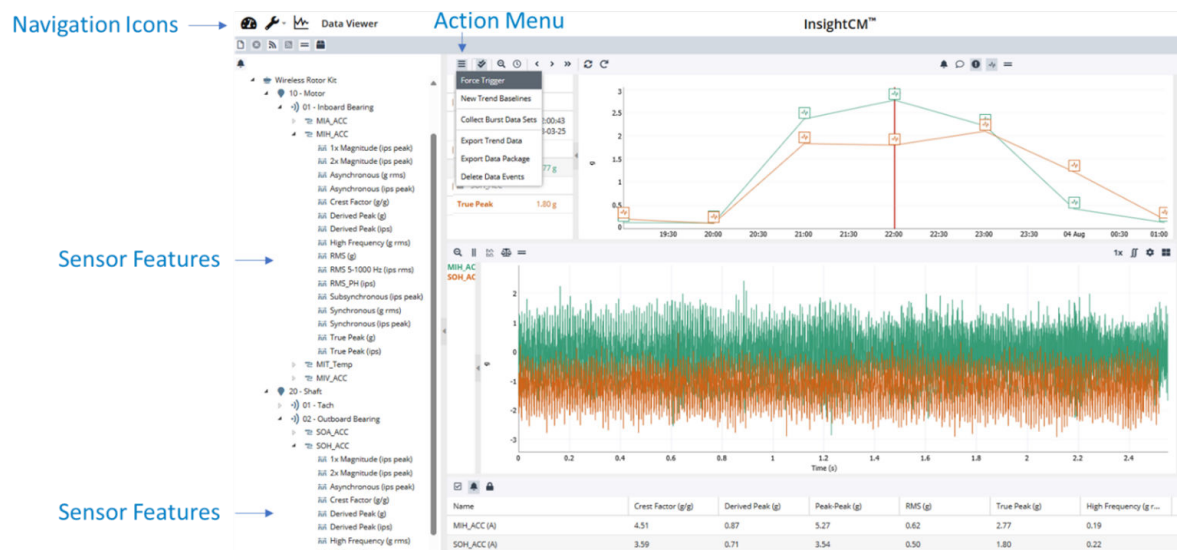

Figure 22. Data Viewer InsightCM page with Navigation, Features, and Action Menu indicated in blue text and arrows
2. Expand one of the wirelessly monitored equipment assets, select a sensor asset, and then select one of the features. By selecting a feature, you activate the Trend viewer chart (see Figure 22).